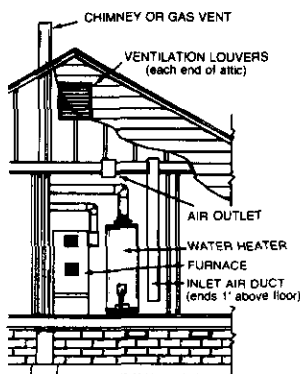

Figure 4
2. When communicating with the outdoors through vertical ducts, each opening shall have a minimum free area of 1 square inch per 4,000 BTU per hour of total input rating of all equipment in the enclosure. (See Figure 4.)